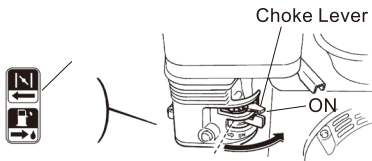

Fig.11
6. Move the choke lever gradually to the ON position after the engine warms up. (Fig. 11)